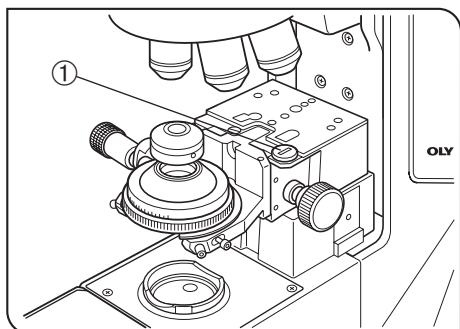

Fig. 26
3 Placing the φ35 mm Dish Specimen (Figs. 26 & 27)
- Ⓞ The dish specimen may sometimes be unable to be focused with the condenser. To prevent this, remove the stopper screw ① on the mounting section of the BX3-STAD stage adapter in advance (Fig. 26). In this case, certain condensers may come in the way of the stage adapter and stage when the condenser is raised to the upper limit.
1. Remove the slide holder for the slide glass specimen and replace it with the dish plate ② provided with the stage adapter.